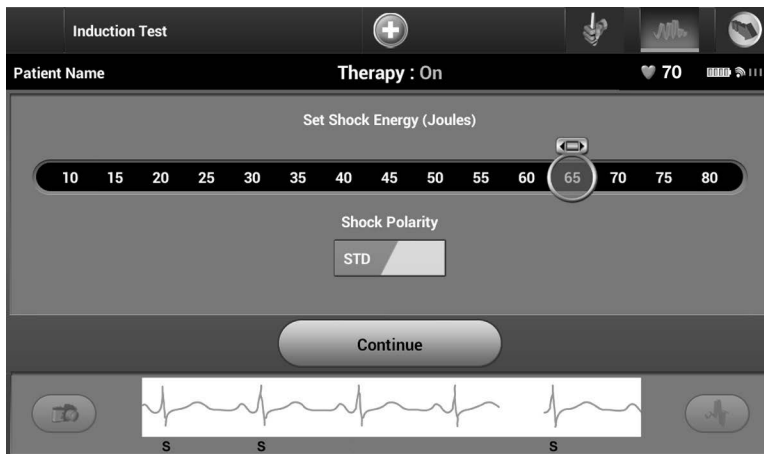

Figure 33: Setting the desired first shock energy for defibrillation testing
3. Select either standard (STD) or reverse (REV) polarity (Figure 33).